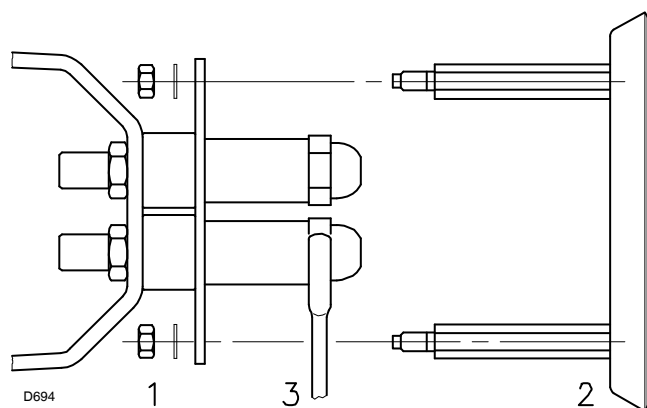

Fig. 16
- Remove the nuts 1) (Fig. 16 on page 19) and the disk 2).
- Use spanner 3) (Fig. 16 on page 19) to change the nozzles.
- Remove the nuts 1)(Fig. 16) and the disk 2).
- Use spanner 3)(Fig. 16) to change the nozzles.